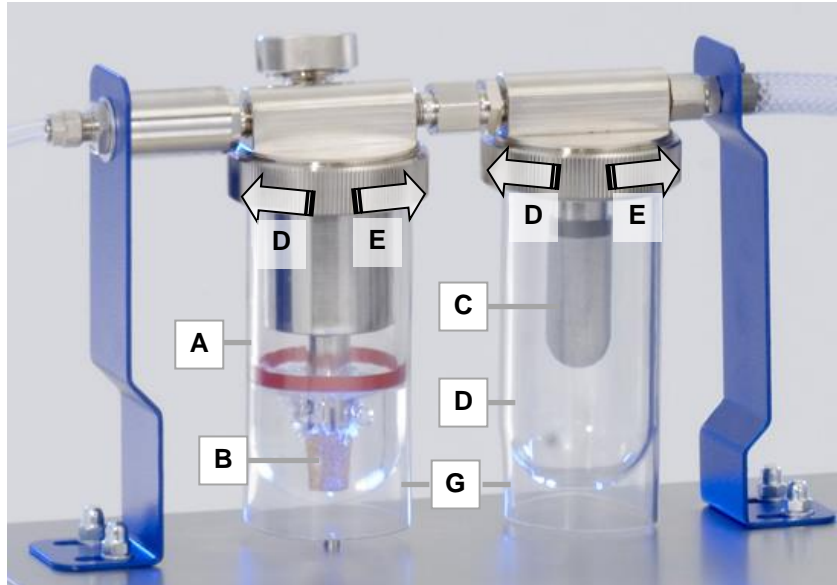

Fig. 7.2 Vaporizer glass (A) with sinter piece (B) and dryer glass (D) with filter candle (C)
1. Turn the screw ring of the vaporizer glass (*fig. 7.2.A*) anticlockwise (*D*).
(*fig. 7.2.G*)!